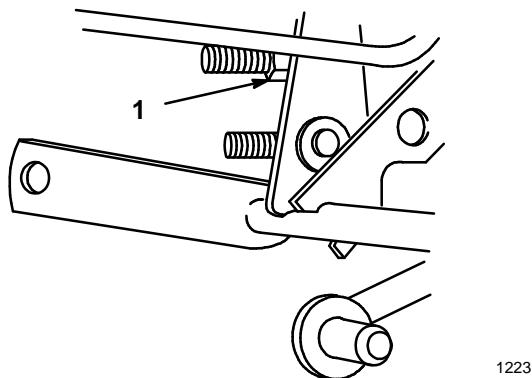

Figure 10
1. Adjust by turning transport height nut, (Fig. 10) on lift mechanism, clockwise to raise or counterclockwise to lower mower.